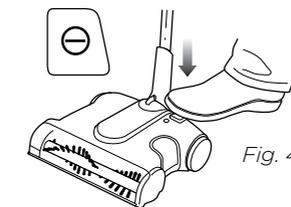

Fig. 4
- 1 Press the power button to start the unit. When finished cleaning, press the power button again to turn the unit off. **(Fig. 4)**